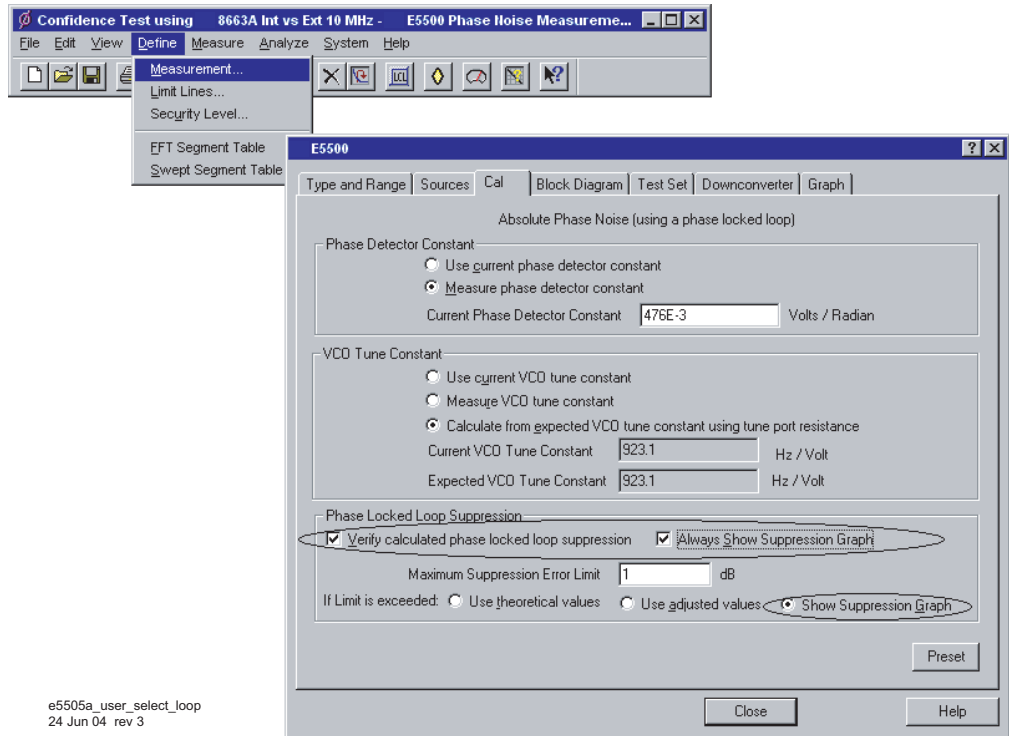

Figure 124 Selecting Loop suppression verification
- 1 Using Figure 124 on page 177 as a guide, navigate to the **Cal** tab.